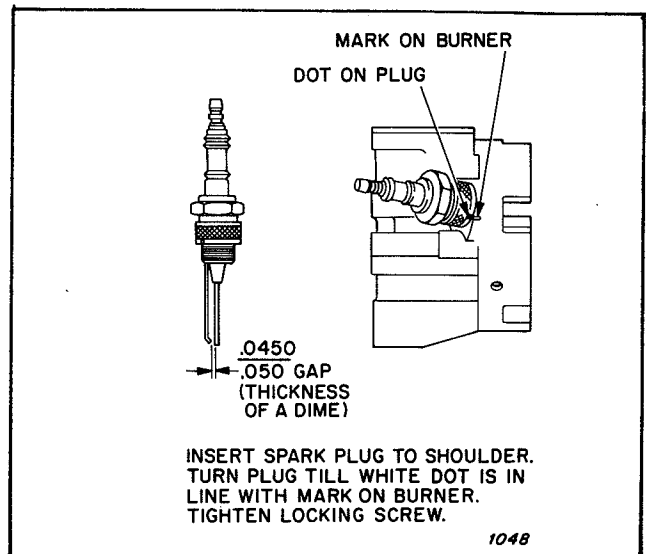

Figure 8. Spark Plug Gap Setting
2. Remove the spark plug from the burner head, and check the gap between the electrodes. See figure 8.
3. Reinstall the spark plug. If the plug is locked in the burner head by a screw, refer to figure 8 for installation instructions.